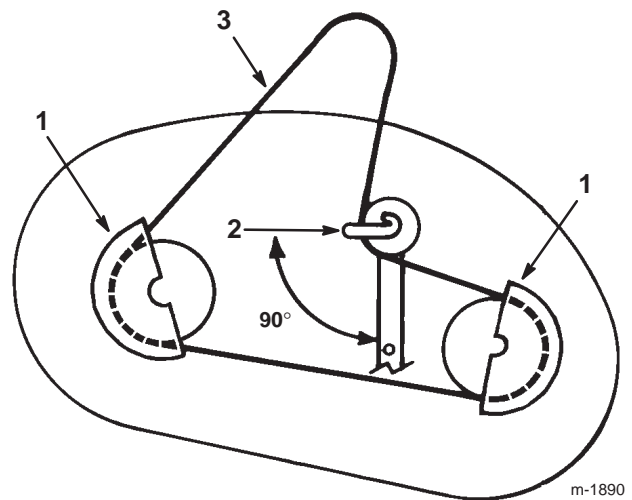

Figure 47
2. Remove the pulley cover mounting screws and pulley covers from both blade pulleys (Fig. 47).
3. Loosen, but do not remove, the bolt and nut securing the idler pulley and belt guide (Fig. 47).
2. Position the idler pulley belt guide so it points toward the left, 90° to the idler arm (Fig. 47). Tighten the mounting bolt and lock nut securing the idler pulley and belt guide.
3. Install the left and right pulley covers with the mounting screws (Fig. 47).